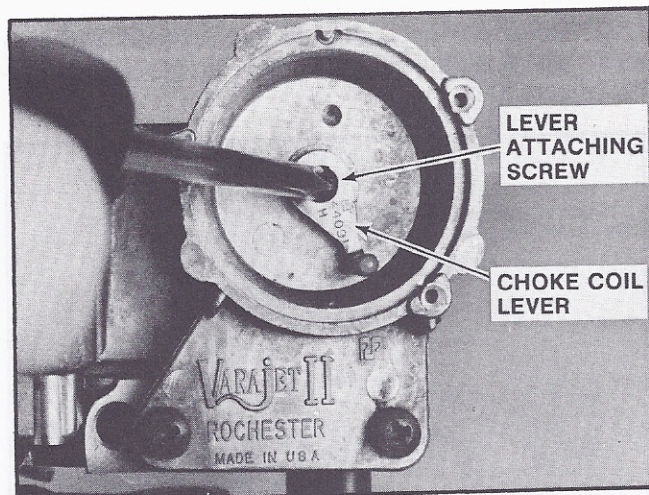

FIGURE 28 CHOKE COIL LEVER SCREW
3. Remove screw from end of intermediate choke shaft inside choke housing (Figure 28). Remove choke coil lever from shaft.